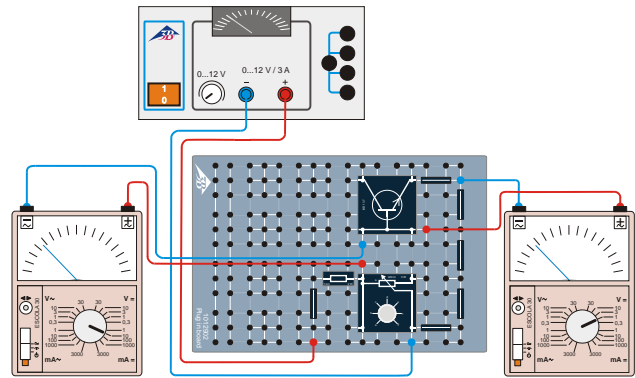

Fig. 3: Sketch of circuit for recording input characteristic.
- Set up the circuit as shown in Fig. 3. The two analogue multimeters in the circuit are for the purpose of measuring the base-emitter voltage U_{BE} and the base current I_B .